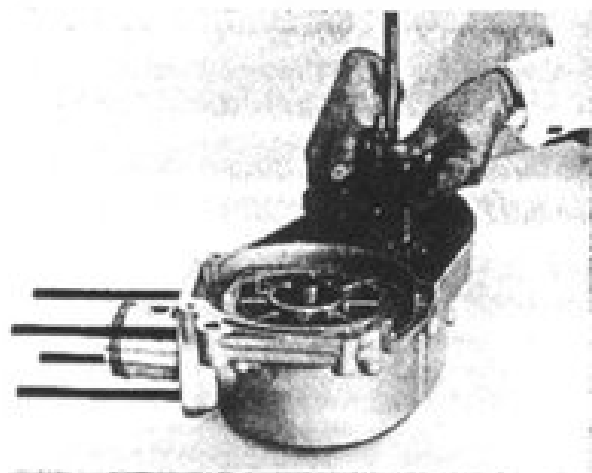

Fig. 28. Mounting the shaft with gear shift forks and gears, HJ-10-3 motorcycle.
6. Put a gear of I and III gears on the layshaft and place the gear shift shaft home. The cavity filled with grease should be matched with the marked shift sector tooth. Simultaneously put the gear of II and IV gears on the mainshaft gear (Fig. 28).